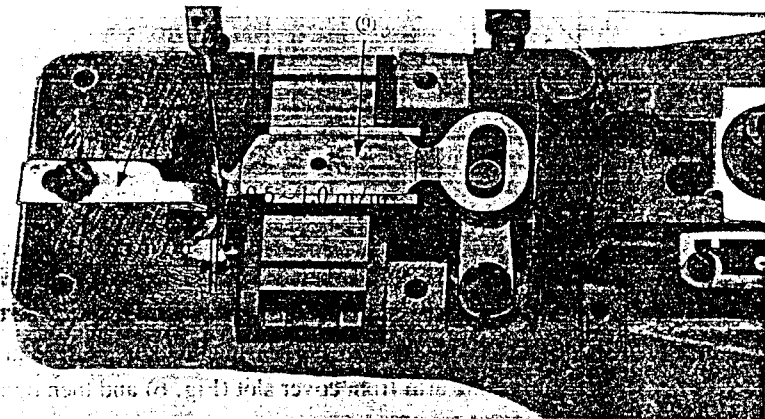

Fig. 15
At the lowest position of the needle bar, loosen the screw ⑥ of the cam and looper sleeve ② by locking from under the bed, slide the cam and looper sleeve toward the front and create a clearance with the loop positioning finger cam (rear). To prevent the machine from moving during the adjustment, lightly tighten one side of the cam and looper sleeve screw ⑥. Loosen the loop positioning finger cam (rear) screw ⑤, rotate the loop positioning finger cam and at the farthest advanced position of the loop positioning finger (Fig. 15 ④), make a clearance of 0.5-1.0mm between the needle and the loop positioning finger edge as shown in Fig. 15
#### 14. POSITION OF THE NEEDLE GUARD (Fig. 15)